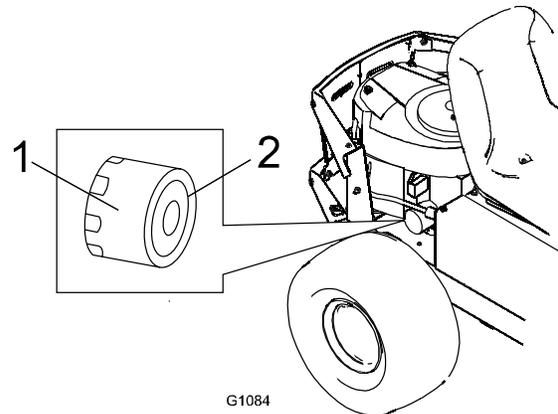

Figure 26
8. Remove the old filter and wipe off the mounting pad (Figure 26).
11. Install the replacement oil filter to the mounting pad. Turn the oil filter clockwise until the rubber gasket contacts the pad, then tighten the filter an additional 1/2 to 3/4 turn (Figure 26).